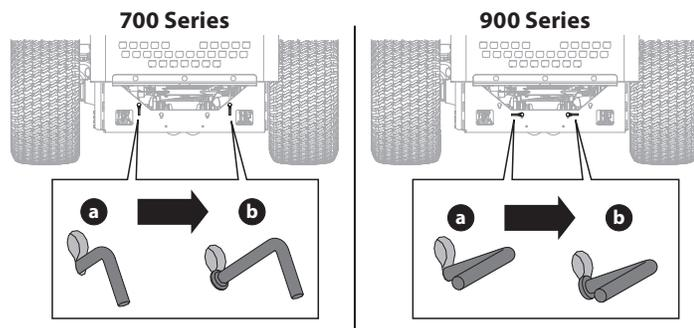

Figure 35
1. To engage the transmission bypass rods, pull the rod (a) up into the larger opening of the key slot, then pull back until the collar on the rod passes through the frame (Figure 35).
2. Lower the rod back into the smaller opening of the key slot, making sure the collar is secured on the outside of the frame (b). Repeat on opposite side (Figure 35).